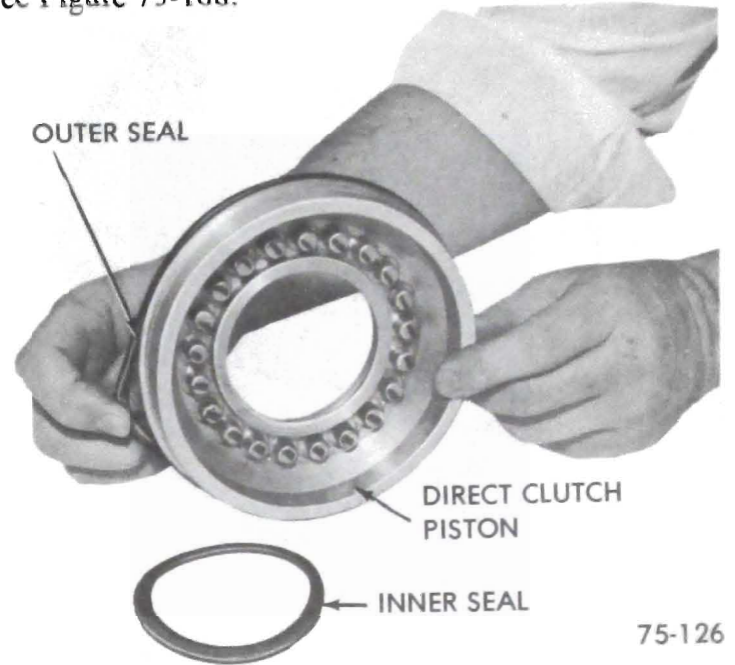

Figure 75-168
11. Remove direct clutch piston inner and outer seals. See Figure 75-168.
1. Install the direct clutch piston outer seal and inner seal. See Figure 75-168.